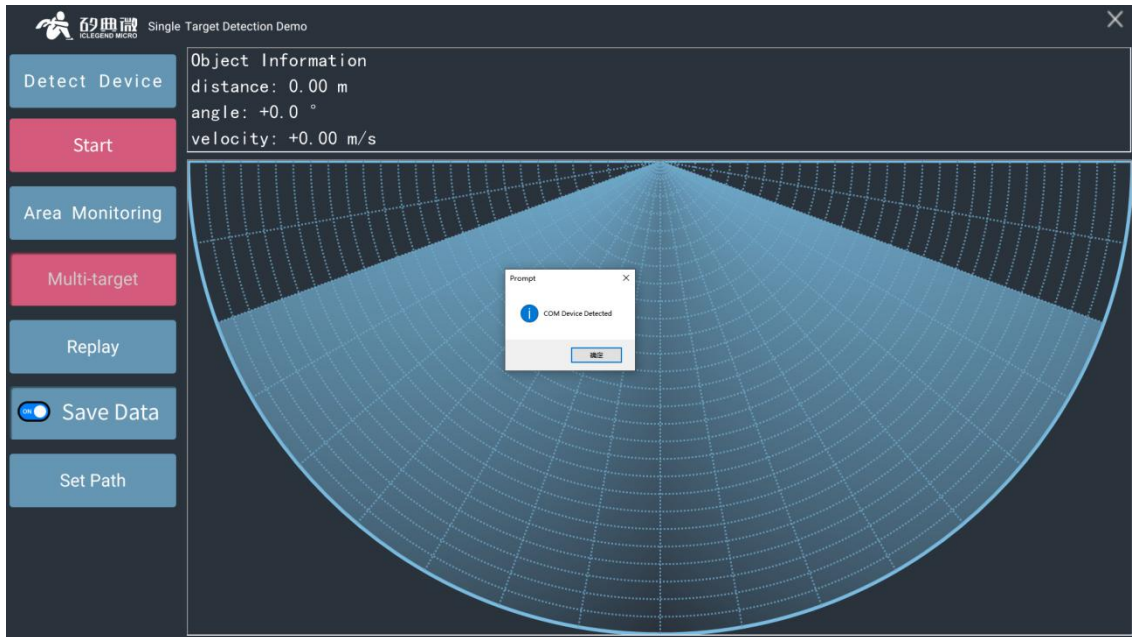

Figure 2.2.1 Device Detected Successfully
Step 2: Click the “Detect Device” button on the interface. If the serial port connection is correct, a prompt box will appear displaying “COM Device Detected”, as shown in Figure 2.2.1. Click “确认” (OK) to continue.